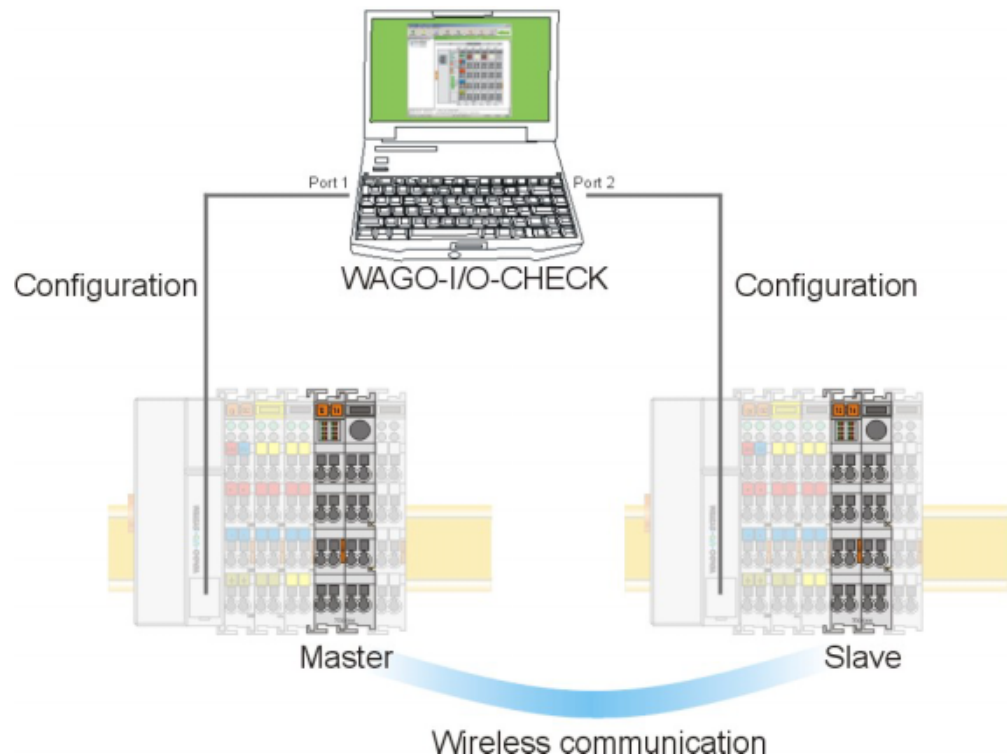

Figure 44: Hardware configuration
1. Construct two identical bus nodes as shown in Figure 44.